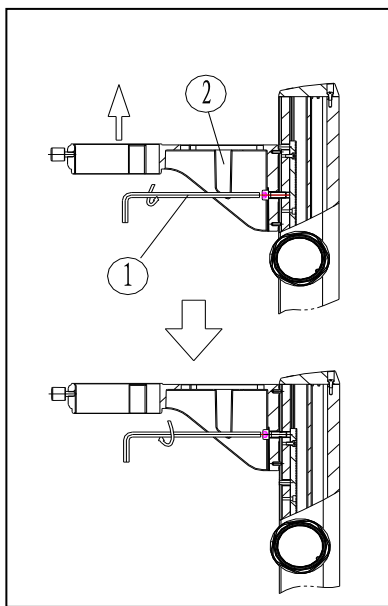

Fig 9
3.2.5 With additional objective (Fig 9)